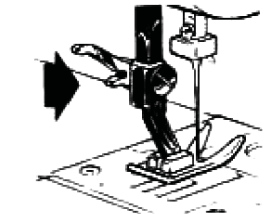

Fig. 4
**For machines with presser foot lock (Fig. 4).**